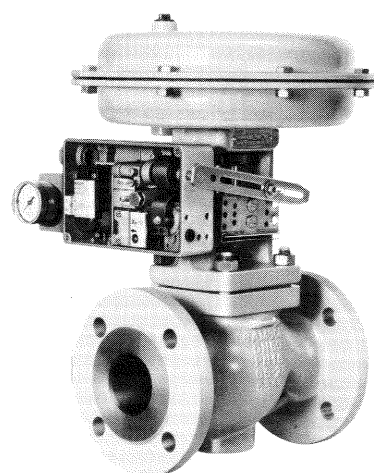

Fig. 3 · Type 3763 i/p Positioner (with gauge) attached to a Type 241-1 Pneumatic Control Valve
**Type 3763** (Fig. 3), Positioner (supply air, input signal spans and valve strokes as with Type 763)
On option all positioners are available with a stainless steel gauge for supply pressure indication as shown in Fig. 3 (scale 0...6 bar and 0...90 psi).